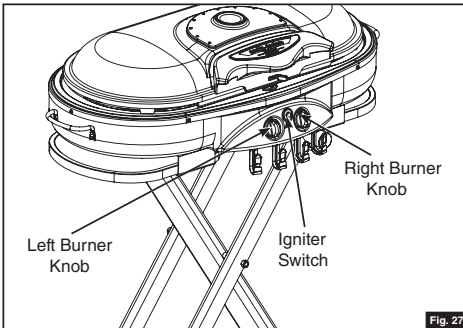

Fig. 27
1. Push and turn burner valve to HIGH/LIGHT then push igniter button repeatedly until burner lights. (Fig. 27 and 28)